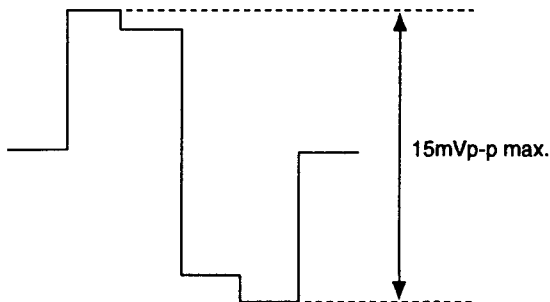

Fig. 5-11
3. Connect the probe of an oscilloscope to IC404 ⑩ PIN or TP402.
5. Adjust **SUB PHASE** so that the output waveform will be minimum (15mVp-p or less). (Fig.5-11)
4. Adjust **SUB PHASE** so that the output waveform will be minimum (15mVp-p or less). (Fig.5-11)